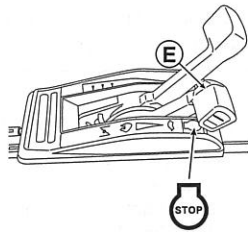

Fig. 21
6. To interrupt mowing work halfway or finish it, return Drive clutch lever (B) and Blade lever (C), and then set Throttle lever (E) to "STOP" to stop the engine. (See Fig. 21)